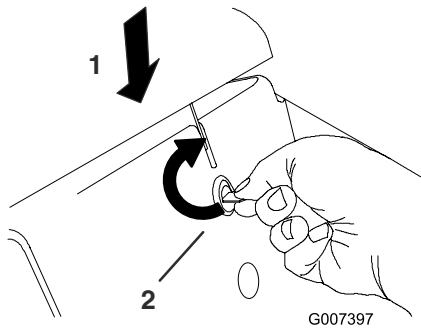

Figure 40
1. Push down on the hood while using the hood key, a coin, or screwdriver to turn the hood latch clockwise (Figure 40).